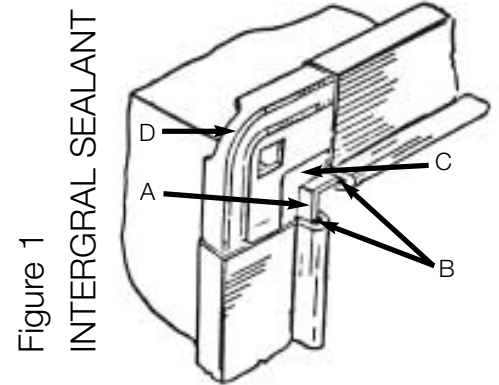

Figure 1
4. Place frame on the duct. Tap with mallet to ensure duct edge is imbedded in integral sealant and duct edges protrude past the cornerpieces. (See Figure 1)